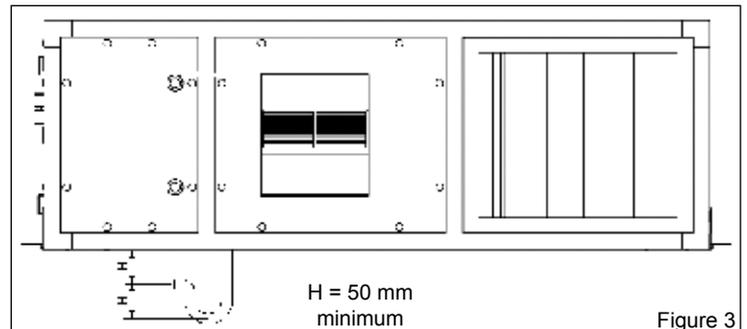

Figure 3
- Each syphon shall be sized according to instructions on fig. 3